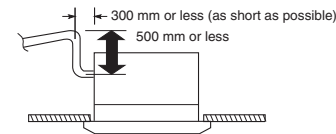

Fig. 3-27
- If it is necessary to increase the height of the drain pipe, the section directly after the connection port can be raised a maximum of 500 mm. Do not raise it any higher than 500 mm, as this could result in water leaks. (Fig. 3-27)